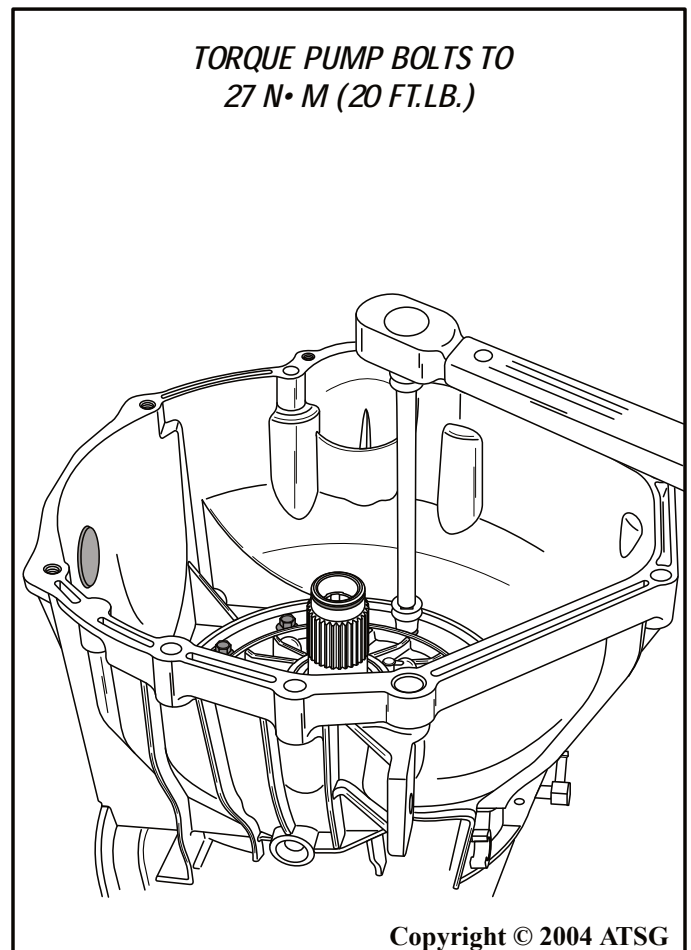

Figure 177
28. Torque the nine pump to case bolts, as shown in Figure 177, to 27 N•m (20 ft.lb.).